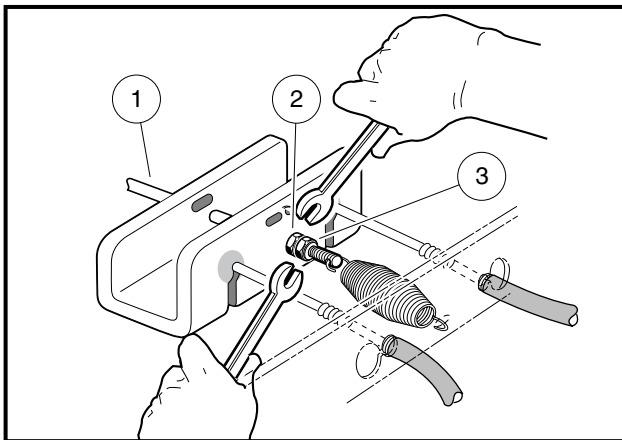

Figure 5-23 Loosen Rear Brake Equalizer Rod Nuts
- 2.2. To provide slack in the brake cables, loosen the equalizer retaining nuts (2 and 3) on the equalizer rods (1) (**Figure 5-23, Page 5-17**).